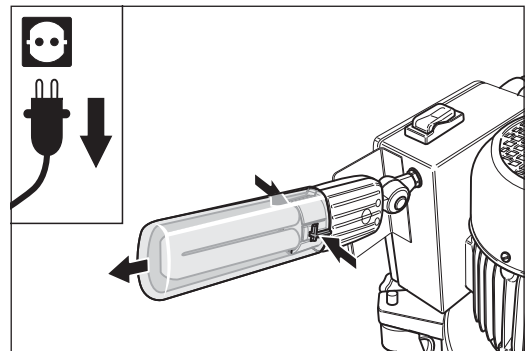

Fig. 83 Press the two clips on the fixture housing together and then remove the protective tube **carefully**.
- 3 On the plastic fixture housing of the working light, press the two clips together that hold the protective tube and then remove the fluorescent lamp carefully (fig. 83).